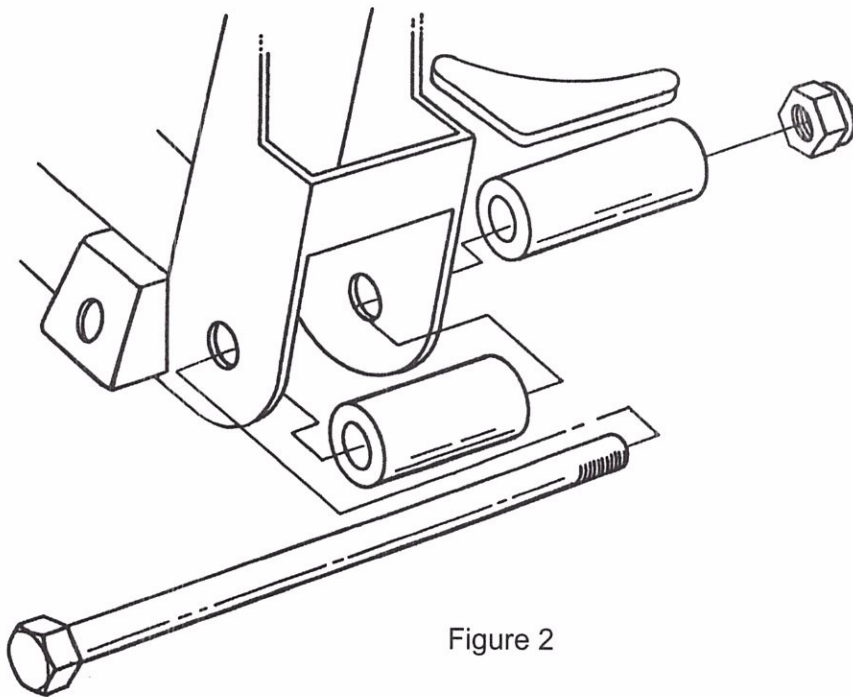

Figure 2
5. If you purchased a complete I.F.S. Package it was supplied with Full Lower A-Arms. Begin by installing the Spacers onto the crossmember. The holes where the lower control arms attach to the Crossmember must be enlarged to 5/8". Mount the Crossmember Spacers and the Rear Spacers which were supplied with the Lower Control Arms onto the Crossmember as shown in Figure 2 using the supplied Inner Bushing Bolts, Nuts and a temporary spacer under the Nuts. DO NOT use the A-Arms for this operation as the welding heat will melt the rubber bushings. Tighten the Bolts and Nuts tight. Weld the Rear Spacers to the Crossmember all around. Weld the Crossmember Spacers as far as possible inside the crossmember on both ends. Position the Gussets horizontally as shown, not vertically, against the Rear Spacers and the back of the Crossmember. Weld Gussets to Spacers and Crossmember. When it cools, remove the bolt.